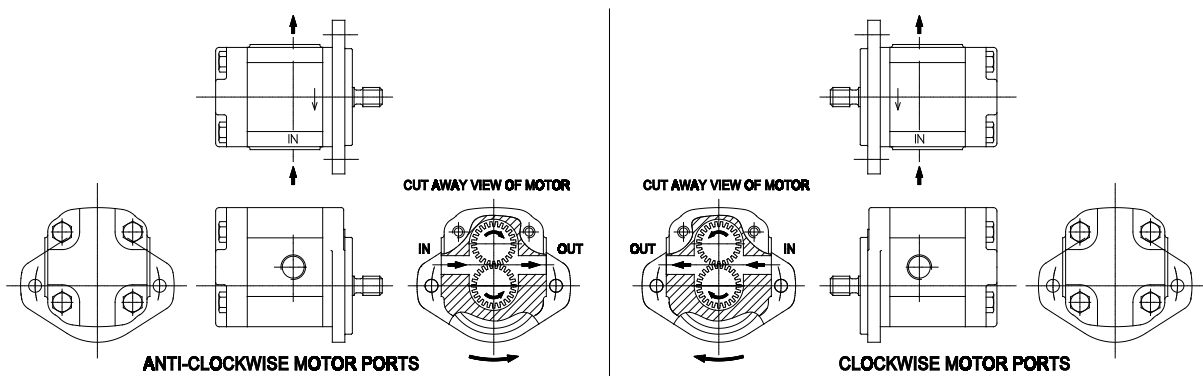

Figure 3 Hydraulic motor ports
Many older motors have their bolted on connecting ports stamped with 'IN' or 'HIGH PRESSURE'. These stampings should be treated with a degree of caution as the ports could have previously been removed from the motor and replaced incorrectly. Later motors will have their rotation and 'IN' stamped on the body (see Figure 3). These may be taken as much more reliable, but even so caution must be exercised and the user must be satisfied that they are correct before proceeding.
- The output shaft from the motor is offset one way from the port centres in the body (see Figure 3). Ensure the motor is in the correct orientation to Figure 3 and identify the motor ports accordingly. Mark appropriately. Note that the hydraulic fluid passes around the outside of the gear wheels and not through the middle.